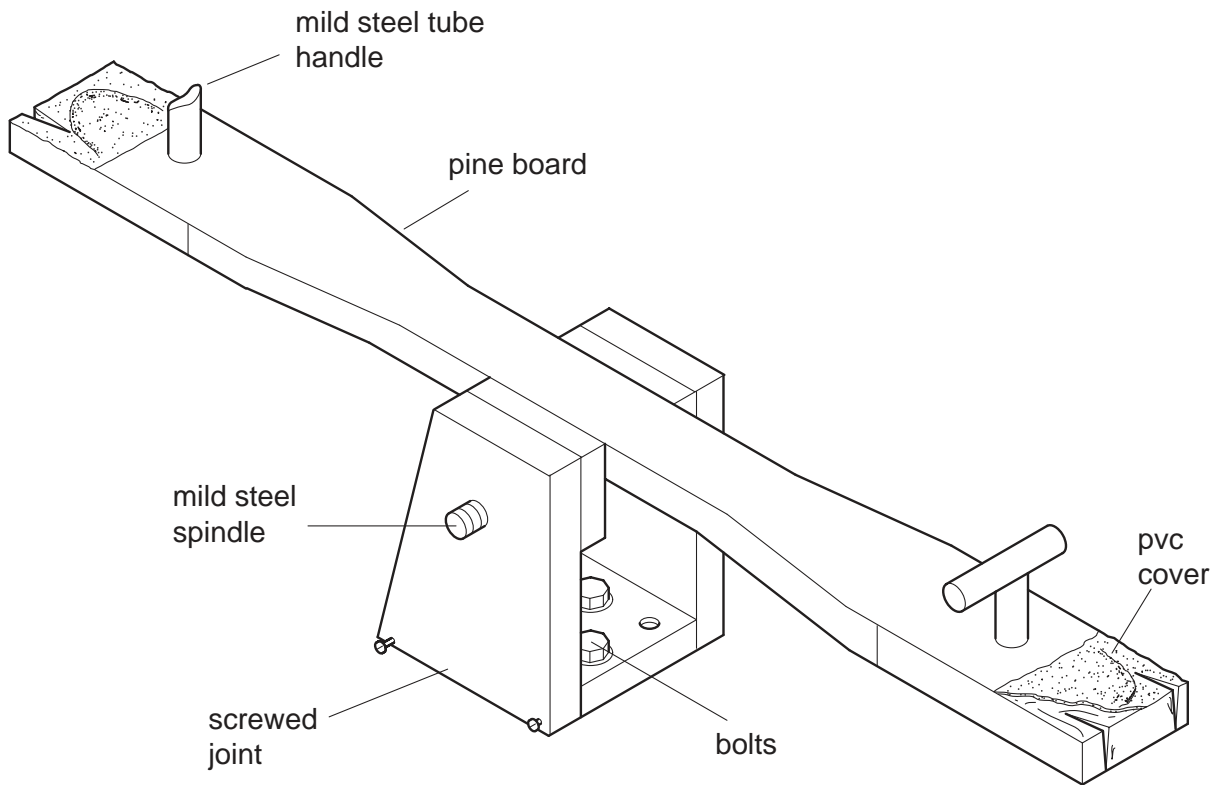

Fig. 8
- 15 A playground see-saw as shown in Fig. 8 is proving to be in a dangerous condition and needs replacing.
- (a) Identify and explain a potential danger associated with any **five** features named in Fig. 8. [5]